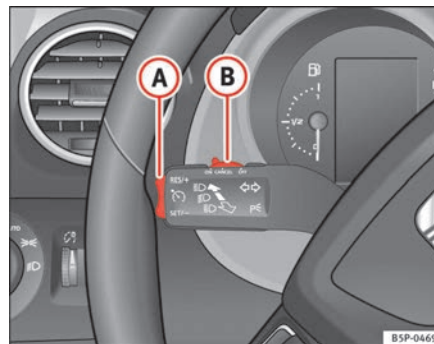

Fig. 130 Indicator and main beam headlight lever: switch and rocker switch for the cruise control
- Press the lower part **SET/SET** of the rocker switch ⇒ fig. 130 **A** once briefly when you have reached the speed you wish to set.